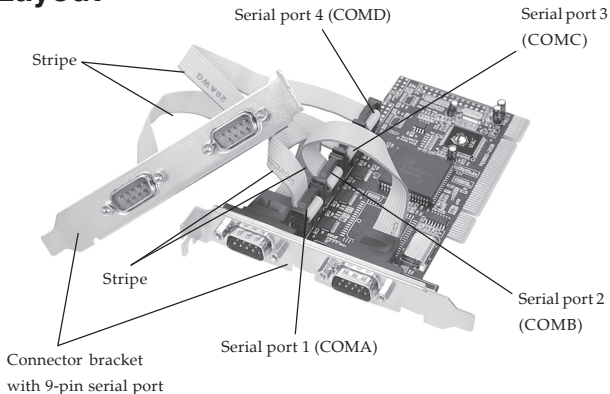

Figure 1: Layout
4. Connect the **2-Port DB9 (9-Pin) serial port cable** connector and remove another slot bracket cover from from the system chassis. See **Figure 1** on page 2 for more details. Skip this step if you only need two serial ports.